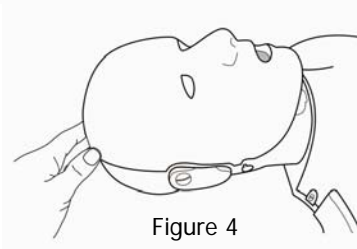

Figure 4
4. Tilt the head of the manikin (Figure 4).